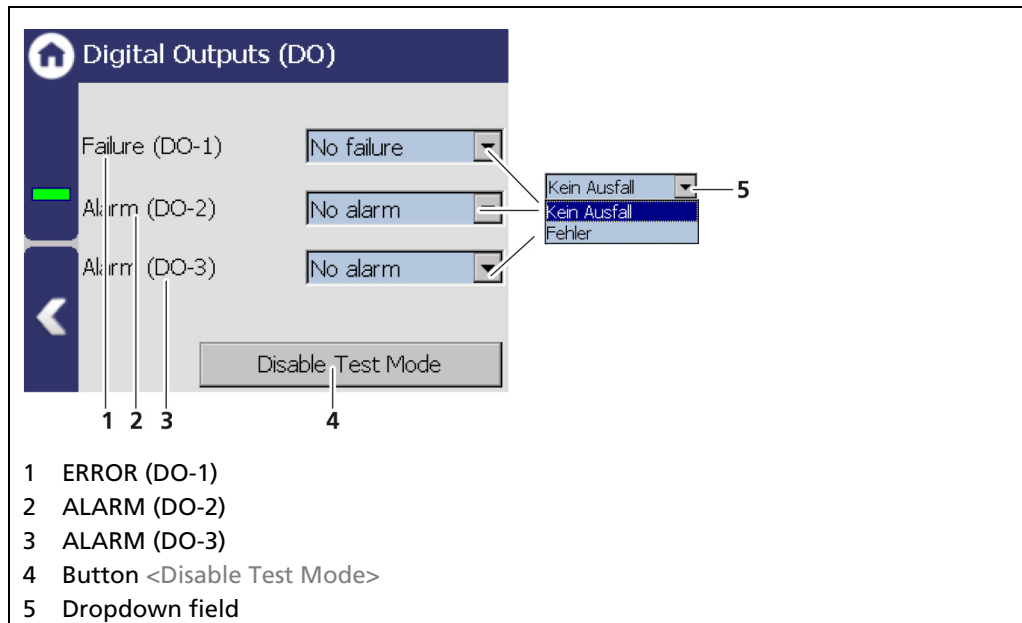

Fig. 99 Simulation Digital Outputs
1. Click on the input field (Fig. 99, item 1) and enter the target value for the simulation.
3. Click on the <Disable Test Mode> button (Fig. 99, item 3) to stop the simulation.